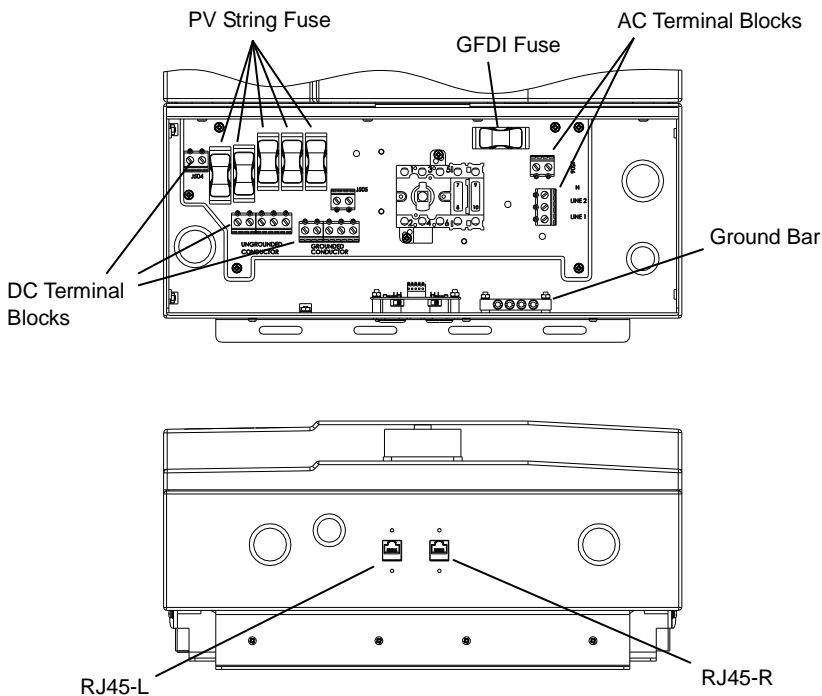

Fig 2.3.5 Wiring box front view
The following three sections describe the wiring for the AC, DC, and communication ports. The wiring shall be done in the wiring box for the PVMate 6500U, PVMate 7500U. There are DC terminal blocks, two (2) RJ-45 connectors, and one (1) AC terminal block in the wiring box as shown in the figure 2.3.5. The DC terminal blocks are used to connect up to five (5) PV strings in parallel in the wiring box. The RJ-45 connectors are used for external communication to a remote computer or terminal. The AC terminal block is used to connect to the utility grid through a circuit breaker and distribution panel according to national and local requirements.